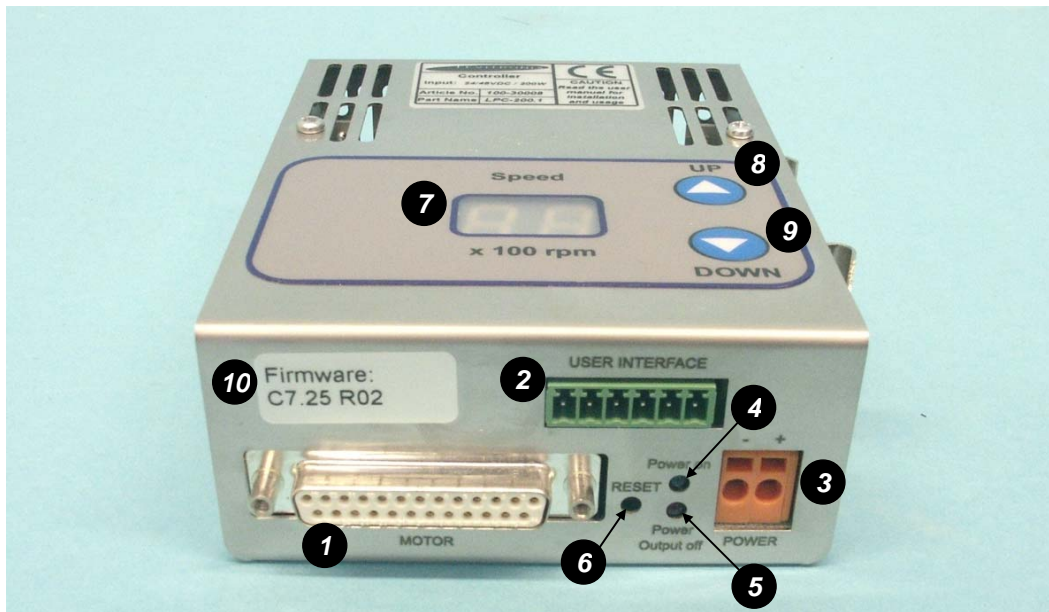
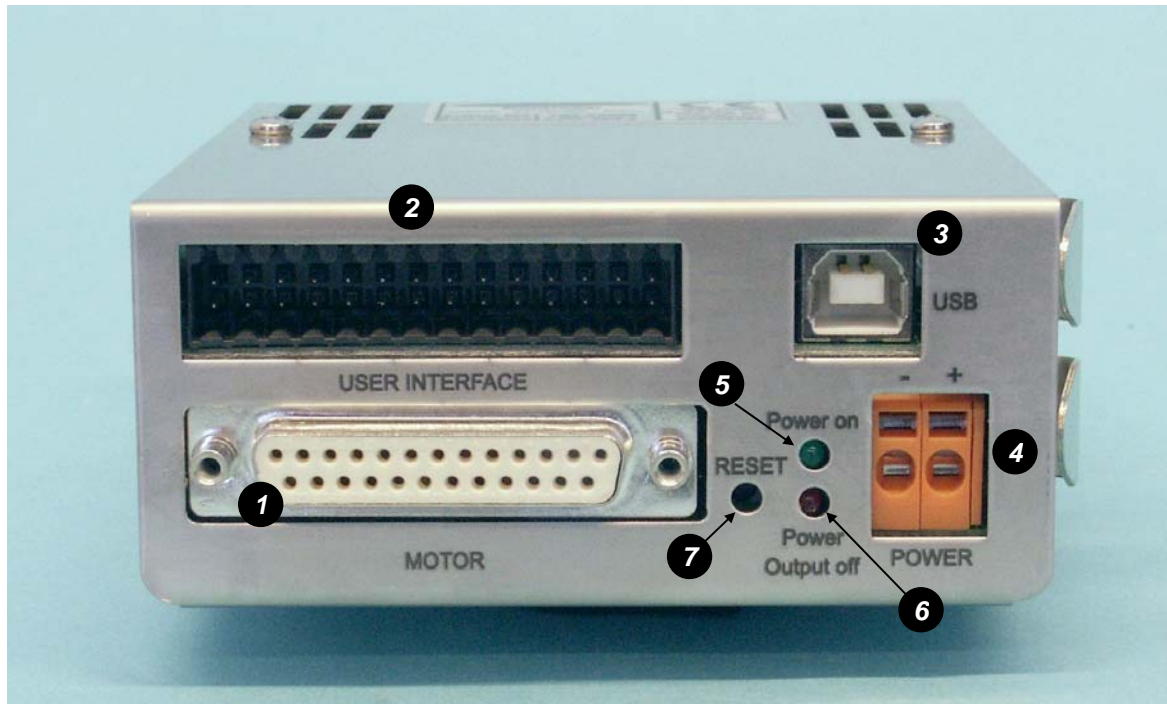

Figure 16: Overview of the controller LPC-200.1 for standalone operation
Figure 17: Overview of the controller LPC-200.2 for extended operation
$$T_C(T_A) \approx \underbrace{T_C(T_A = 25^\circ\text{C})}_{\text{see Figure 16}} + (T_A - 25^\circ\text{C}) \quad \begin{array}{l} T_C = \text{Controller temperature} \\ T_A = \text{Ambient temperature} \end{array} \quad (\text{Eq. 2})$$
The *LPC-200* controllers have signal processor controlled power converters with four switched inverters for the drive and the bearing coils of the motor. The signal processor allows precise control of pump speed and impeller position. *Figure 16* shows the interfaces of the *LPC-200.1* controller with stand-alone and minimal PLC functions and *Figure 17* the interfaces of the *LPC-200.2* controller with extended PLC functions and USB interface for communication.
5. Connect the DC supply wires to the power input connector of the controller. Make sure that the polarity is correct (see *Figure 16* and *Figure 17*) and that AC/DC power supply is off.